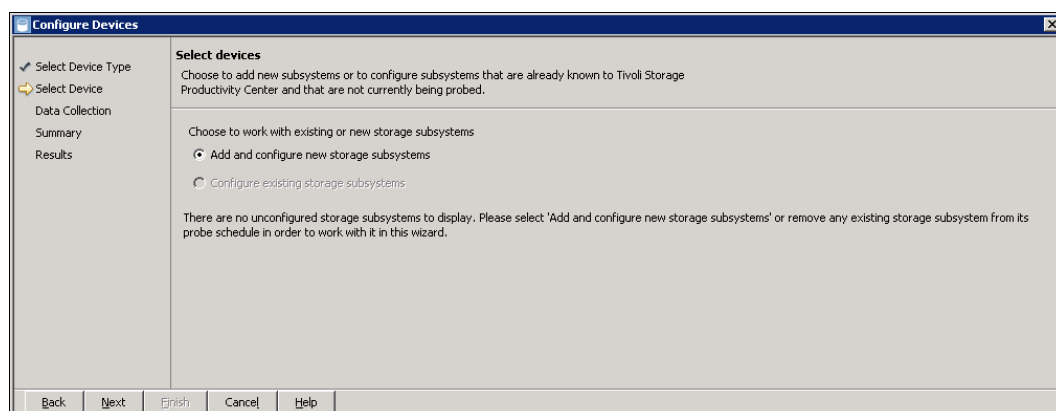

Figure 12-42 Add and configure new storage subsystems
4. Select **Add and configure new storage subsystems** and click **Next** (Figure 12-42).